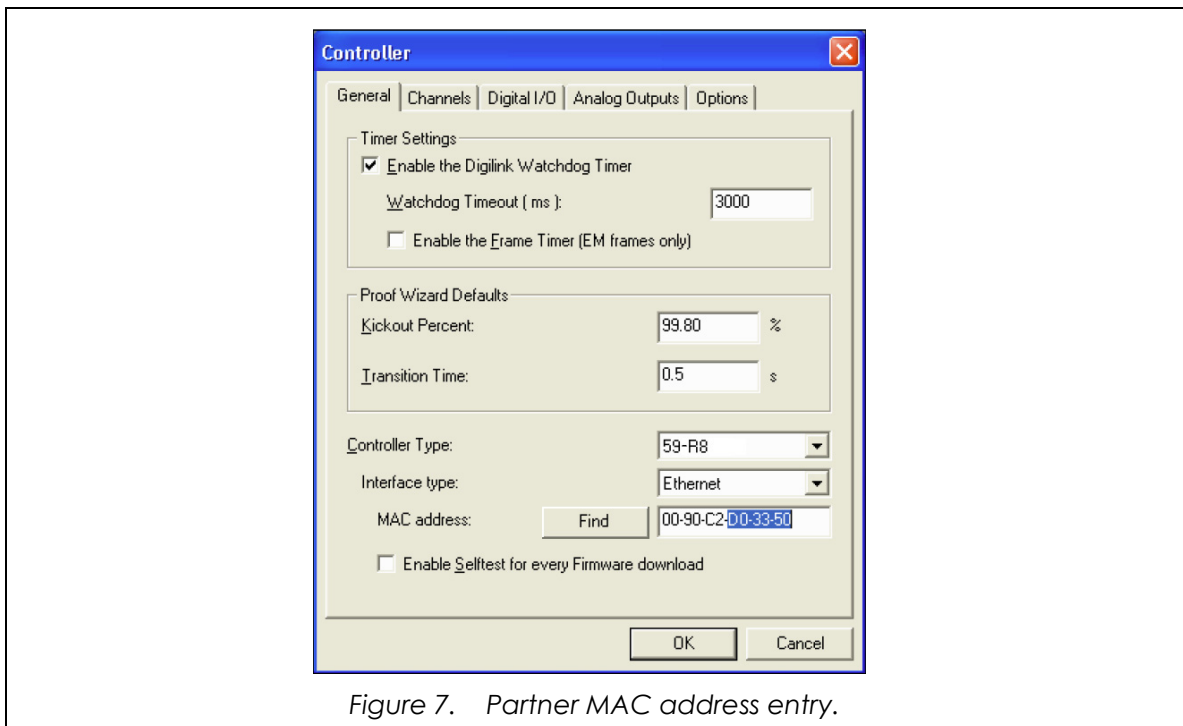

Figure 7. Partner MAC address entry.
- vii. In addition to an IP address, the EFI uses a unique MAC address. Click the Find button next to the MAC address field; the software will search for the device, get the MAC address and populate the field. Alternately, you can enter the MAC address manually. The MAC address can be found on the label affixed to the front of the 59-Series control unit (usually below the Ethernet connection). The MAC address is case sensitive. The first six digits (00-90-C2) indicate that the EFI is an Instron device. The last six digits are unique to that EFI to ensure that Partner only communicates with that specific EFI (Figure 7).